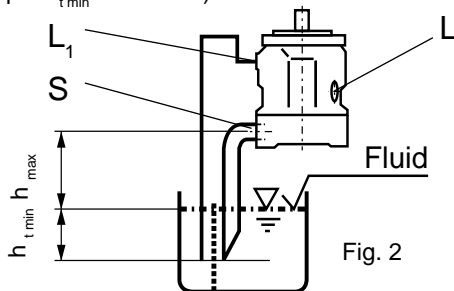

Fig. 2
b) If the minimum fluid level is below the pump mounting surface pipe port "L1", and possibly "S" according to Fig. 2. Close port "L" with respect to conditions in 1.2.1.
Before installation fill pump housing, keeping it in a horizontal position. For mounting above tank see Fig. 2.